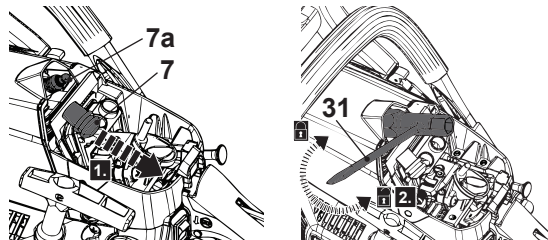

Fig. 53
1. Loosen the fixing screw (6) (Fig. 53, step 1) and remove the air filter cover (6a) to reach the spark plug connector (7).
2. Disconnect the spark plug connector (7) (Fig. 53, step 1).
3. Loosen the spark plug (7a) anticlockwise using the multi-tool (31) and remove it carefully (Fig. 53, step 2).